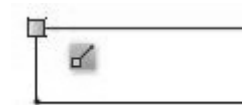

Figure 3-50 Same Point
- Step 6:**  *Select* the **Line** tool and draw the backward “L-shaped” tab on the left end of the base. Be sure to return to the starting point by drawing the last horizontal line. Place the cursor near the upper left corner of the base. Creo Parametric will use the same point as previously defined when an X and a box appear over the top of the point as shown in Figure 3-50. Draw a short vertical line (left end of the backward L-shape). When drawing the upper horizontal line and the left vertical line of the tab, extend the lines until the = symbol appears. When drawing the top horizontal line of the tab, again extend the line until the = symbol appears.